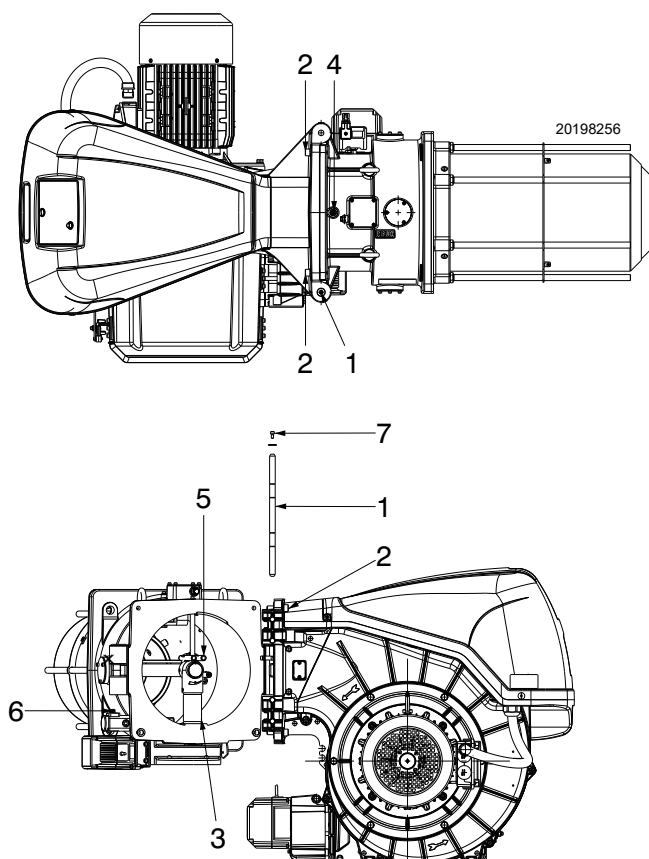

Fig. 16
The burner leaves the factory set for opening to the right, therefore maintaining the pin 1)(Fig. 16) in the housing.
- A disconnect the plug/socket 6)(Fig. 16) of the maximum gas pressure switch;
- D fully open the burner as in Fig. 16;
To open the burner from the opposite side, before removing the pin 1)(Fig. 16), make sure that the 4 screws 2) are tight.